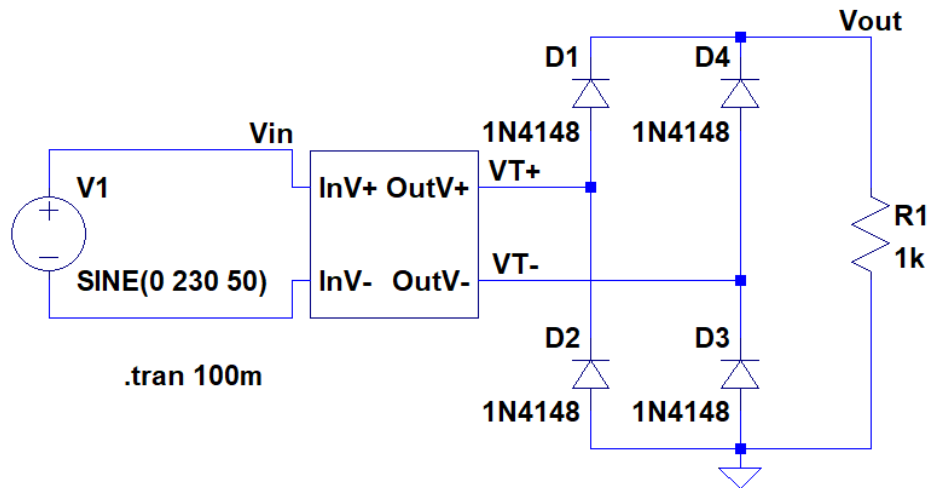

Fig. 8. Rectifier with Graetz bridge.
9. Prepare the rectifier diagram as shown in Figure 8 and save it in: